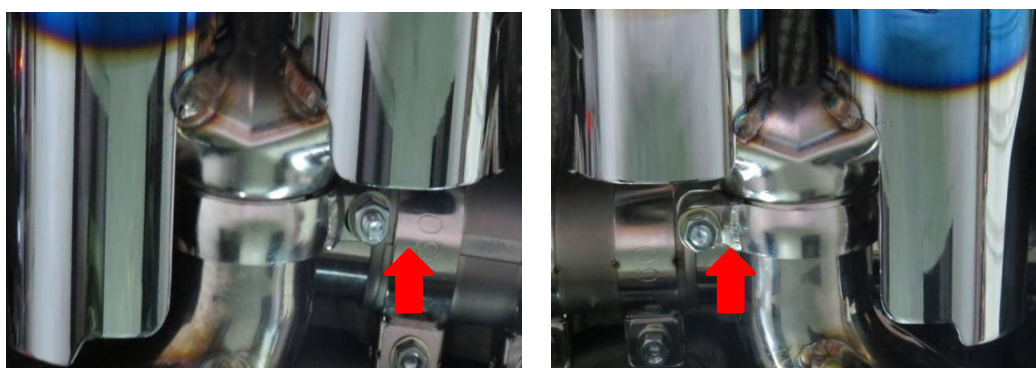

Fig 2-8
11. Install the tips and lock it with 13mm hex wrench. (Fig2-8)